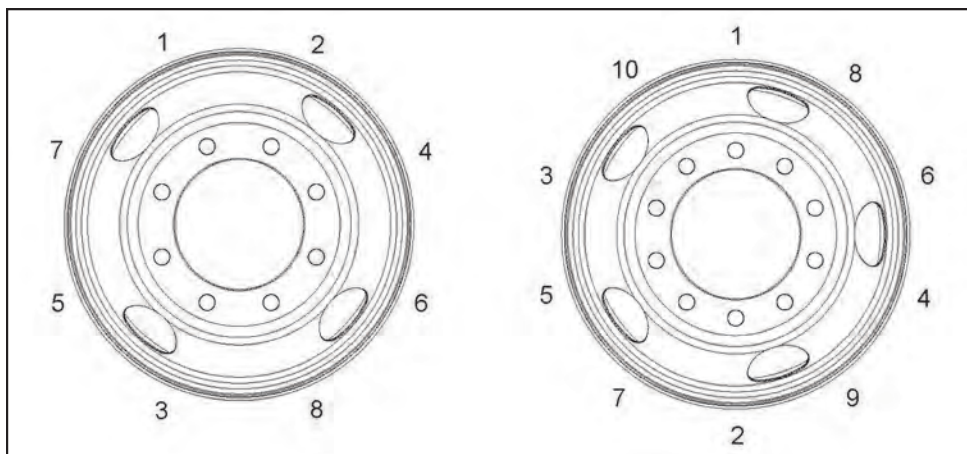

Figure 18. Disc Wheel Installation
4. Tighten nuts fully, using a crossing pattern as shown above in (Figure 18). Be sure to tighten nuts only to the recommended torque. For correct wheel lug nut torque see page 64.